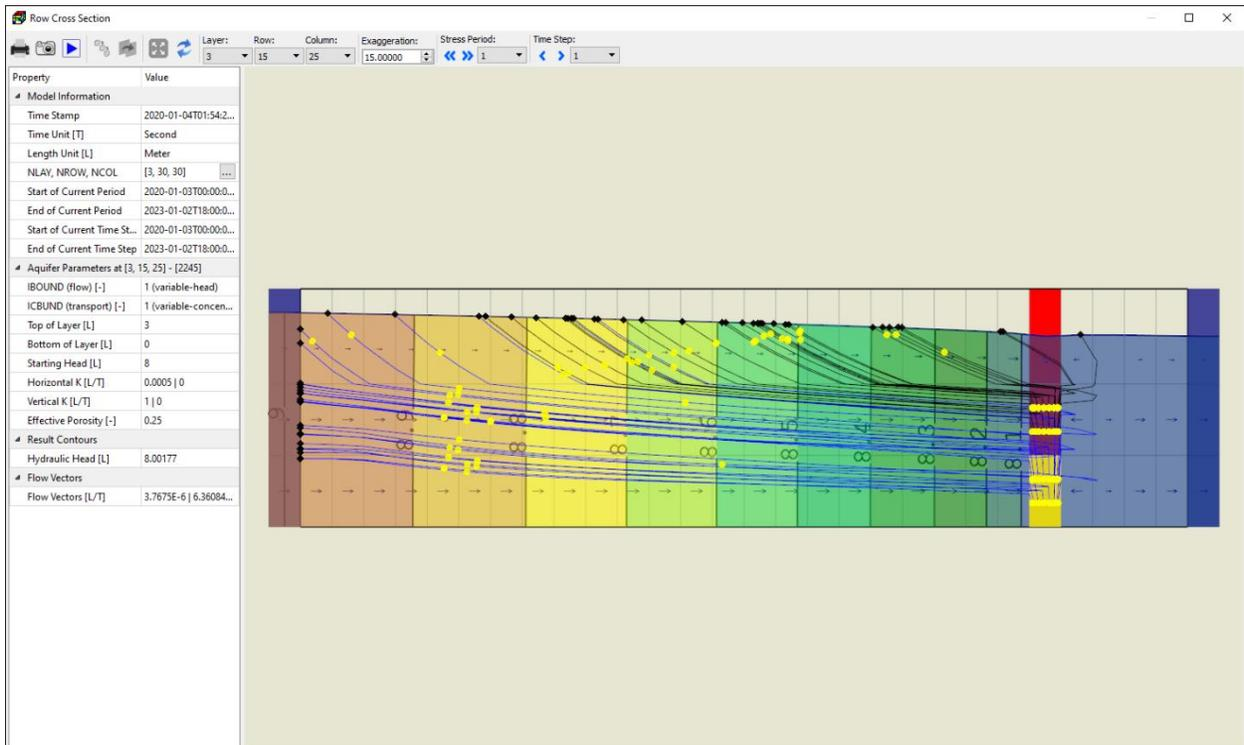

Figure 14. Projection of pathlines on Row Cross Section Window (backward tracking)
- Click on the  button on the toolbar to display the Row Cross Section window. On the Row Cross Section Window, set Exaggeration to 15 and then click the  button to zoom out. As the recharge term is applied to the cell top, some pathlines track back to the groundwater surface where recharge was applied (Figure 14). The results of backward particle tracking indicate that the capture zone of the pumping well adequately covers the contaminated area.